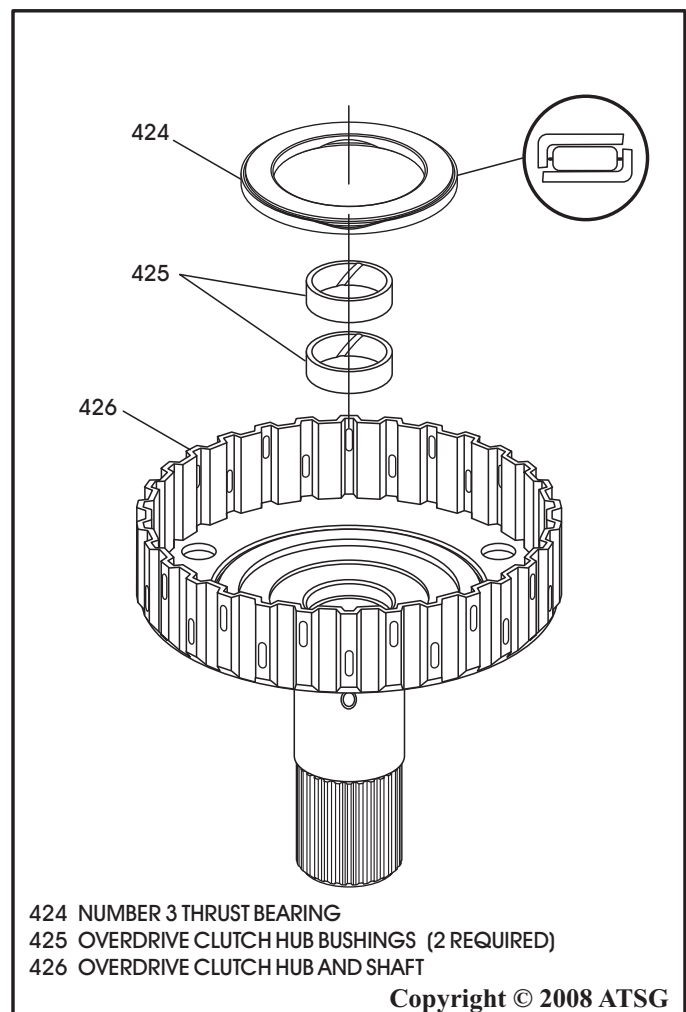

Figure 102
34. Install new bushings as necessary in overdrive clutch hub, as shown in Figure 102.
35. Install the number 3 thrust bearing, as shown in Figure 102, and retain with a small amount of Trans-Jel®.